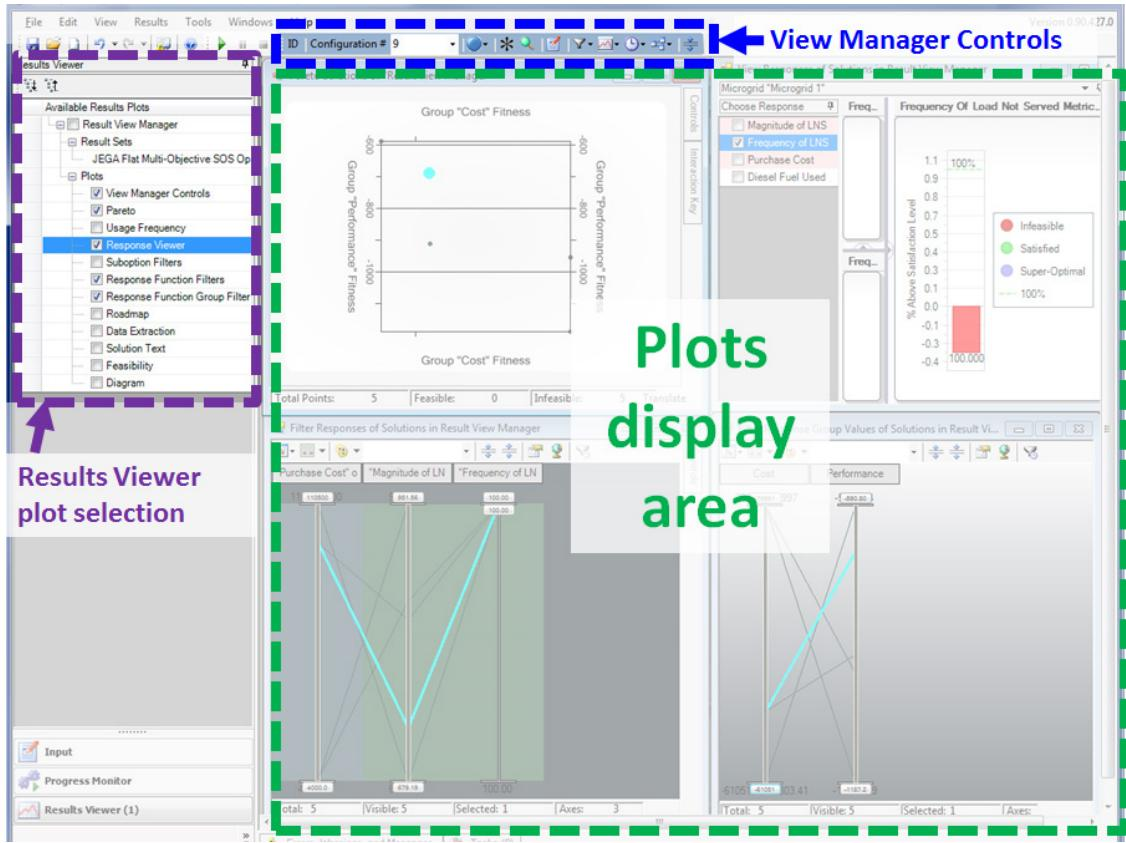

Figure 67. Results Viewer overview.
- **Plot selection menu** (highlighted in purple in Figure 67) allows you to select which plots to display.
- **View Manager Controls** (highlighted in blue in Figure 67) toolbar allows you to see the currently selected configuration and filters being applied to the plots. This toolbar can be displayed/hidden via the plot selection menu. This is not applicable for MSC analyses.
- **Plots display area** (highlighted in green Figure 67) can display multiple plots at once. Plot windows can be resized and moved.
All of the plots are interactive and are linked. Selecting a configuration or filtering on one plot will cause the same configuration and filters to apply to all other plots. Since multiple plots can be open at the same time, this feature becomes useful in ensuring all plots are displaying information about the same data set. In Figure 67, you will see a bright blue dot or line in three of the plots, which represent the same configuration.